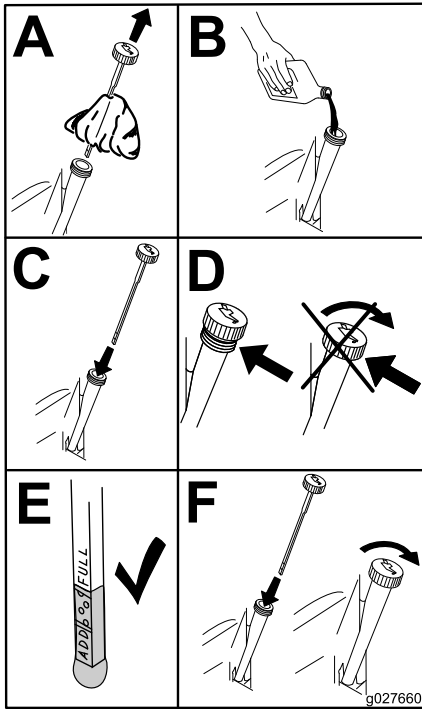

Figure 50
- Slowly pour approximately 80% of the specified oil into the filler tube and slowly add the additional oil to bring it to the **Full** mark (Figure 50).